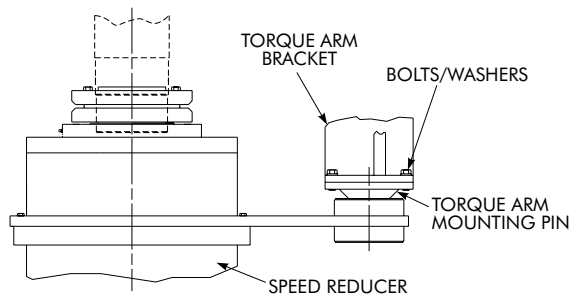

Figure 2.2c Mounting of torque Arm Pins to Torque Arm Bracket
4. Tighten the bolts with washers, shimming if necessary. Reference Table 2 (Page 18) for recommended bolt torques. Reference Figure 2.2c.